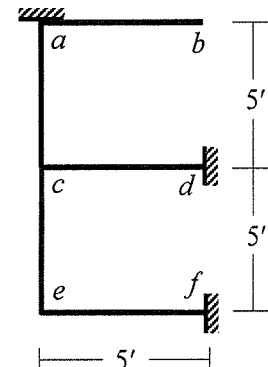

Fig.3
- Calculate 1st natural frequency of the frame **abcdef** shown in **Fig.3** using consistent mass matrices [Given: $EI = 50 \times 10^3 \text{ k-ft}$, $\mu = 0.005 \text{ k-sec}^2/\text{ft}^2$].